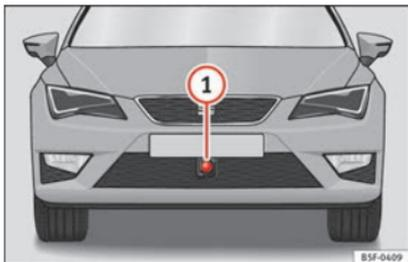

Fig. 159 On the front bumper: radar sensor.
»» Fig. 159 ①. This sensor can detect vehicles in front up to a distance of approximately 120 m.